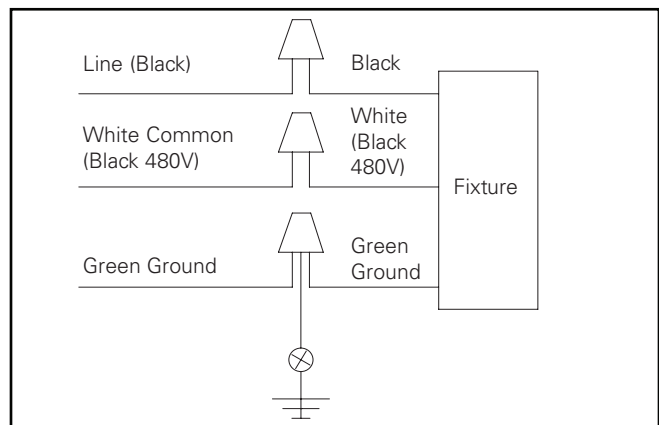

Figure 4.
4. Make wire connections inside the mounting arm. Refer to wire diagram for power connections. Connect the supply wires to appropriate luminaire leads: (Figure 4.)
7. Make wire connections inside the fixture. Refer to wire diagram for power connections. Connect the supply wires to appropriate luminaire leads: (Figure 4.)
8. Tuck wires into the fixture and install fixture door. Tighten the (4) fixture door screws to 20 in-lbs. (or tighten door thumb screws).
4. Effectuez les raccords de fils à l'intérieur du bras de montage. Consultez le schéma de câblage pour effectuer les raccords. Raccordez les fils d'alimentation aux fils appropriés du luminaire : (figure 4)